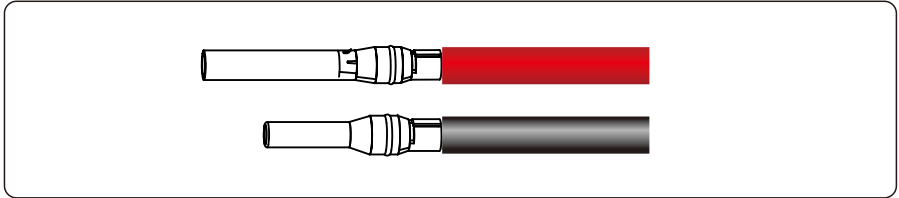

Figure 5.9 Crimping a metal connector
Step 2 Insert the exposed areas of the positive and negative power cables into the metal terminals of the positive and negative connectors respectively and crimp them using a crimping tool, as shown in Figure 5.9.